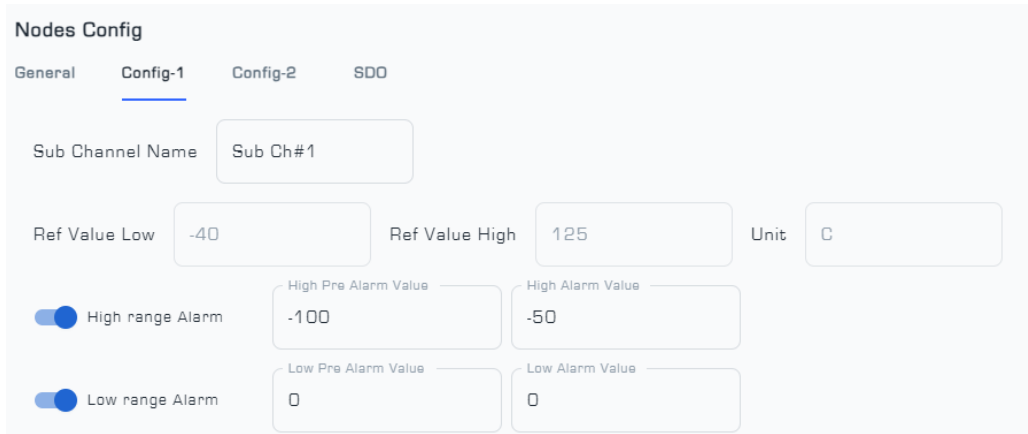

Figure 9: Config Menu of the Node Settings Page
- The "Config" menu varies in number depending on whether the Node is single-channel or multi-channel, and you can add additional configuration settings for the Node on the "Config" page 1(Figure 9).